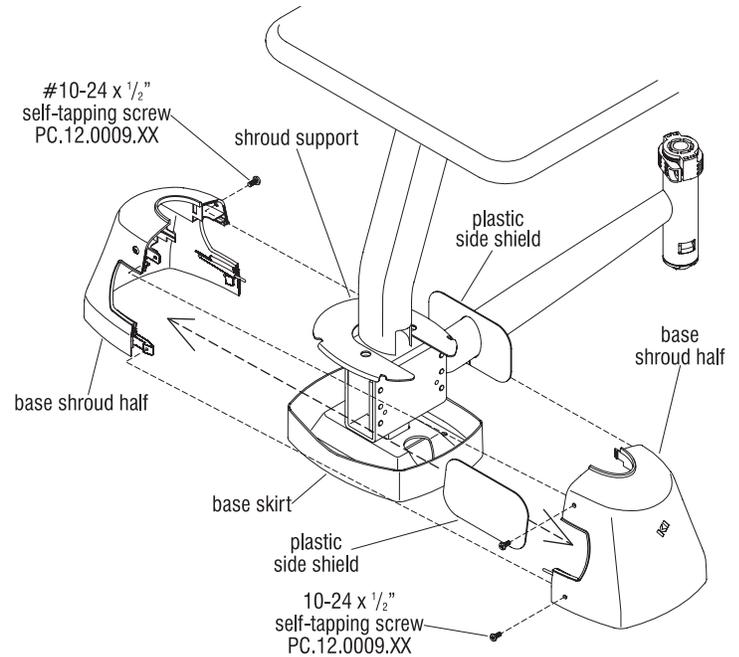

Figure 23
59. For bases with only one swing arm, as on the end-of-run, first place a plastic side shield over the single swing arm with the seam oriented down and the shiny side facing in (Figure 23).
60. To assemble the shrouds over the base, first fit a solid plastic side shield into one base shroud half (the shiny side facing in), at the no swing-arm side of the base. Next, align the front shroud with both the solid and swing arm side shields and set it into place over the shroud support. Align the back shroud in the same manner, and with firm pressure, snap the parts together. Press on the bottom sides to finish the lower snap fasteners (Figure 23).
61. Locate the two open mounting holes on each side of the joined shroud halves and secure together with color-matched #10-24 x 1/2" self-tapping screws as illustrated. Torque screws to 20 in/lb (Figure 23).